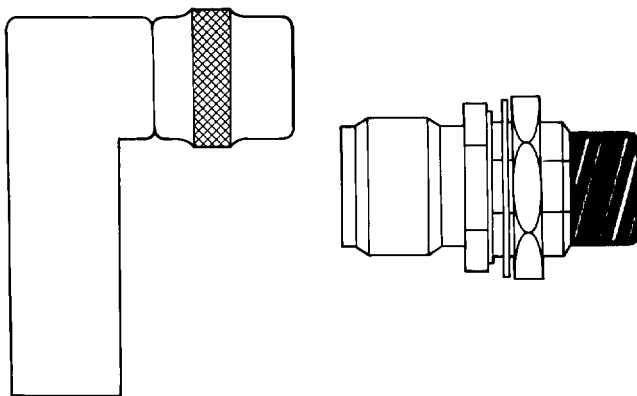

Figure 21. Typical QSC Series Connector
51. **Series QSC Connectors.** These connectors are large, threaded coupling connectors. These connectors operate to 11,000 MHz and to 1500 volt (Figure 21).